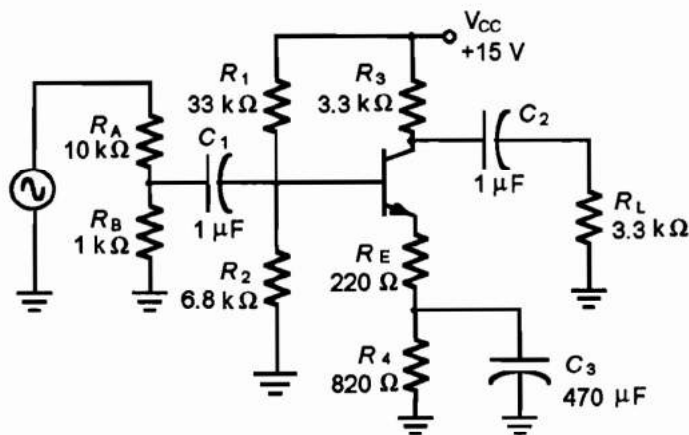

Figure 22.2
9. Turn off the circuit power. Change the emitter circuit to add a swamping resistor as shown in Figure 22.2. Reapply circuit power and the AC signal input.